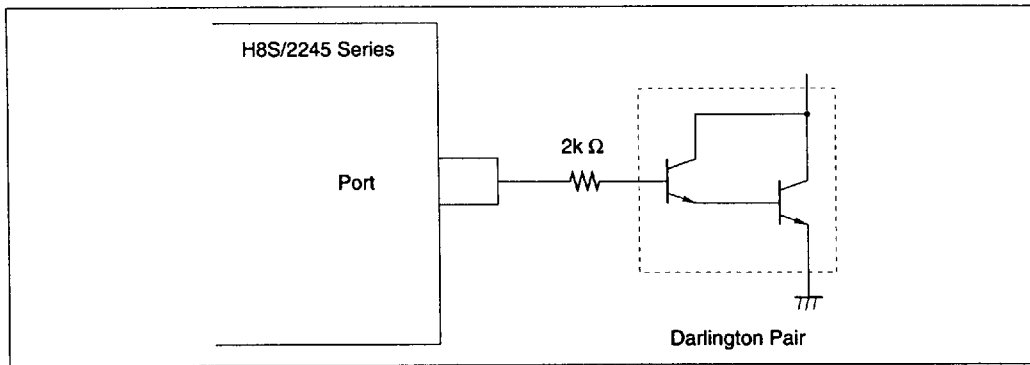

Figure 19-1 Darlington Pair Drive Circuit (Example)
2. When driving a darlington pair or LED, always insert a current-limiting resistor in the output line, as show in figures 19-1 and 19-2.